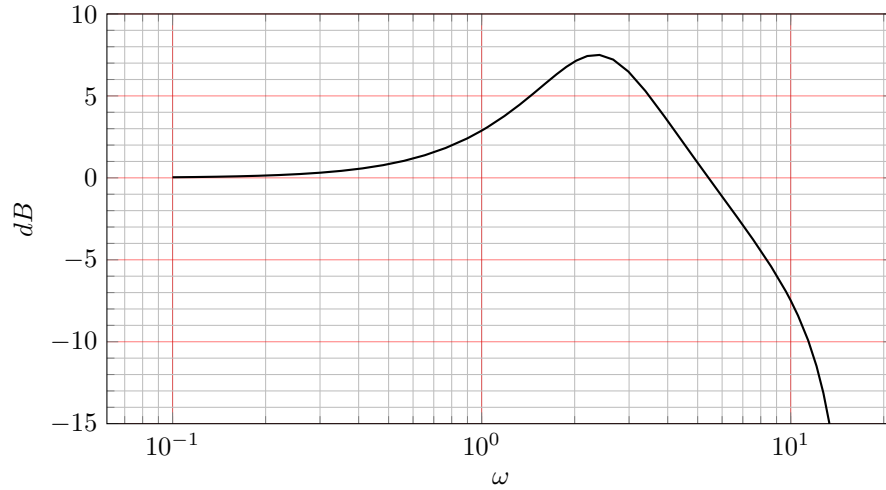

Figure 3: Problem 1: Bode diagram of closed-loop system with PD-control
2. Assume that the tanker with model (1) is stabilized using error-feedback and a PD-controller. The Bode-diagram of the resulting **closed-loop** system is given in figure 3. What is the bandwidth of the closed-loop system? At what frequency is the resonance peak?